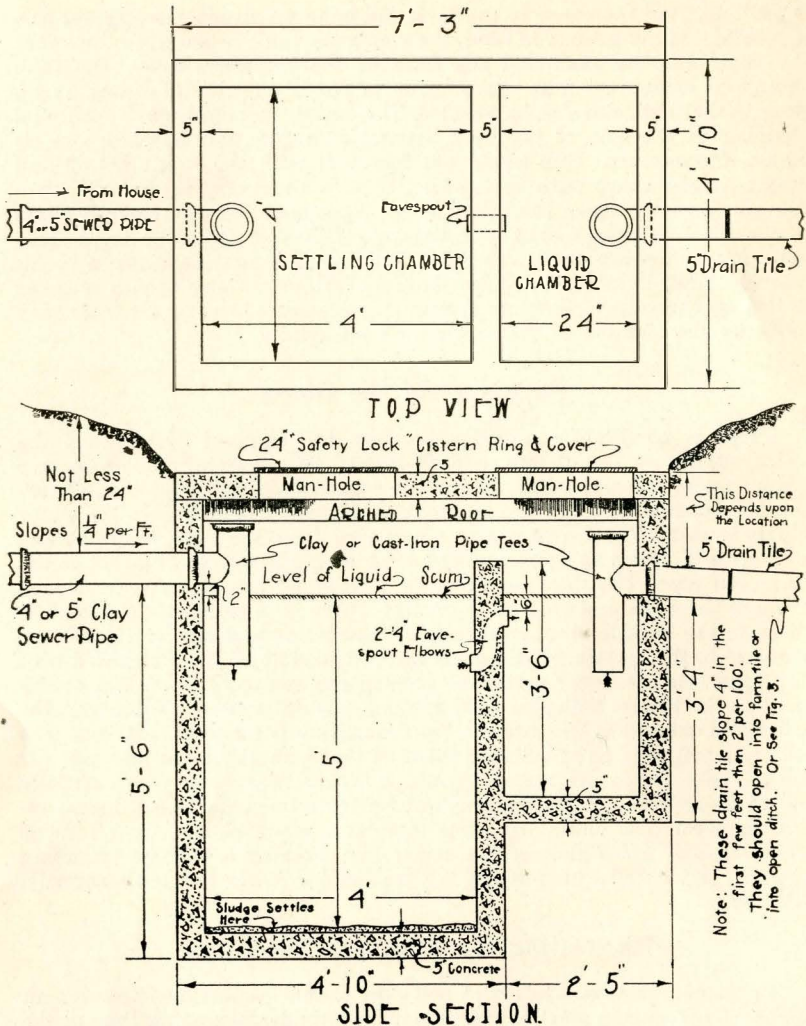

FIG. 2.—PLAN FOR BUILDING A SIMPLE SEPTIC TANK FOR THE FARM HOME
6. Q.—Must the outlet tee, as shown in the plan in Fig. 2, be just 2 inches lower than the inlet tee?